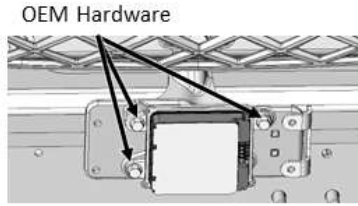

Figure 2a:
1. If the truck is equipped with Collision Avoidance System (CAS), disconnect the Radar Sensor and remove as shown in Figure 2a. Retain the Radar Sensor and hardware for later use.